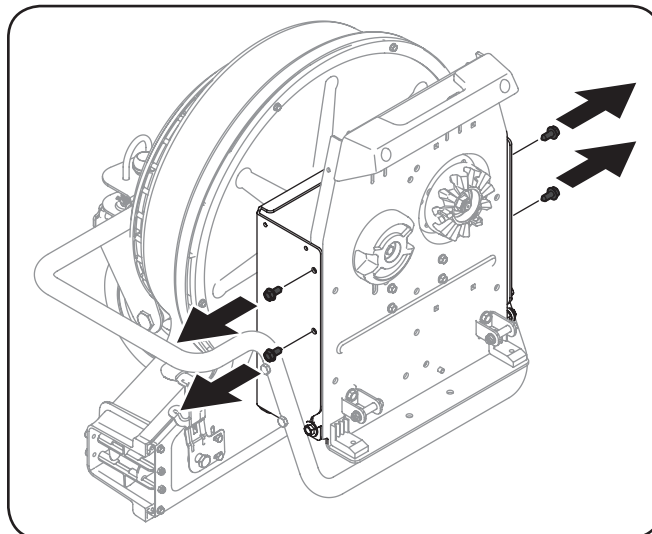

Figure 5-3
4. Remove the four upper tap screws that secure the mounting frame bracket to the blower housing. See Figure 5-3.